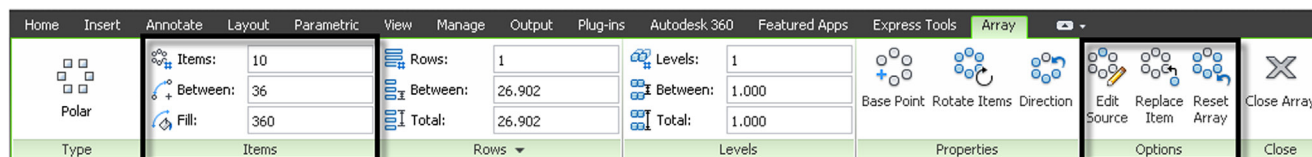

FIGURE 8.5
The Ribbon has two areas of interest, the Items category and the Options category, as seen in Figure 8.5. The Items category we already mentioned and it is relatively self-explanatory. Top to bottom, the first value (10) is the number of items in the array, and you can change it for an instant update. Below that is the angle between all the objects (36°), and finally, below that, the total angle filled (360° , or a full circle). This should make sense as $36 \times 10 = 360$.